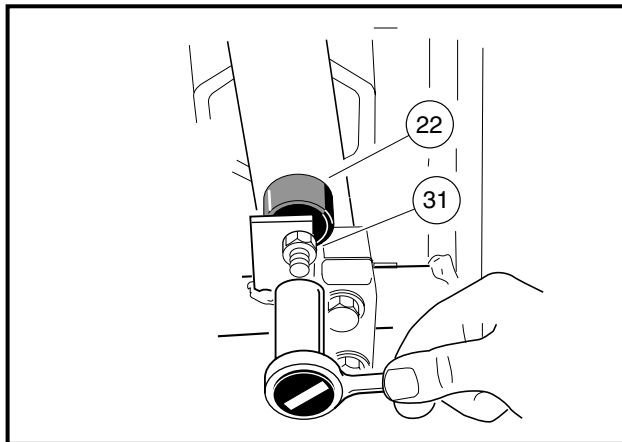
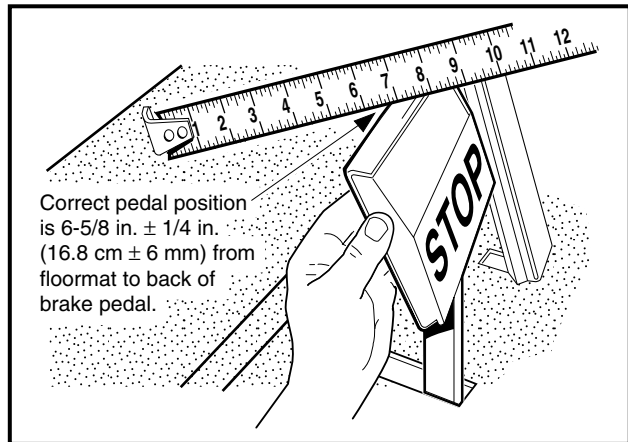

Figure 5-4 Adjust Brake Pedal Height
Figure 5-5 Measure Brake Pedal Height
4. Pull the brake pedal toward the rear of the vehicle until the brake stop bumper will not allow the pedal to travel any further (**Figure 5-5, Page 5-6**).
5. Loosen, but do not remove, the brake stop jam nut (31) **(Figure 5-4, Page 5-6)**.
6. Pull the brake pedal toward the rear of the vehicle until the brake stop bumper will not allow the pedal to travel any further **(Figure 5-5, Page 5-6)**.
7. While holding the brake pedal in this position, measure the distance from the back of the brake pedal to the floorboard **(Figure 5-5, Page 5-6)**. If the measured distance is between 6-3/8 inches (16.2 cm) and 6-7/8 inches (17.5 cm), proceed to step 9.
8. Adjust the brake stop bumper (22) up or down **(Figure 5-4, Page 5-6)**. Adjusting the bumper upward decreases the distance between the pedal and the floorboard. Adjusting the bumper downward increases the distance between the pedal and the floorboard. Proper brake pedal height is 6-5/8 inches  $\pm$  1/4 inch (16.8 cm  $\pm$  6 mm) **(Figure 5-5, Page 5-6)**.
9. Tighten the jam nut (31) to 8 ft-lb (9.5 N·m) **(Figure 5-4, Page 5-6)**.